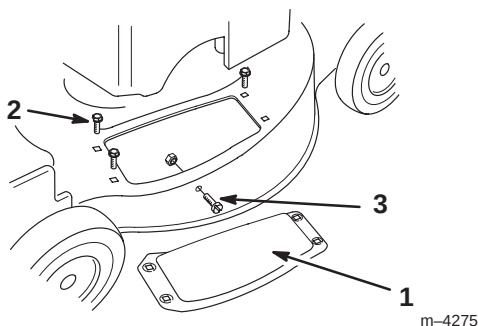

Figure 33
4. Remove and save the three bolts that secure the discharge cover to the lawn mower (Fig. 33). Save the cover and bolts for future use.
2. Bolt (3)
5. Remove the screw and nut from side of the lawn mower (Fig. 33). Save them for future use.